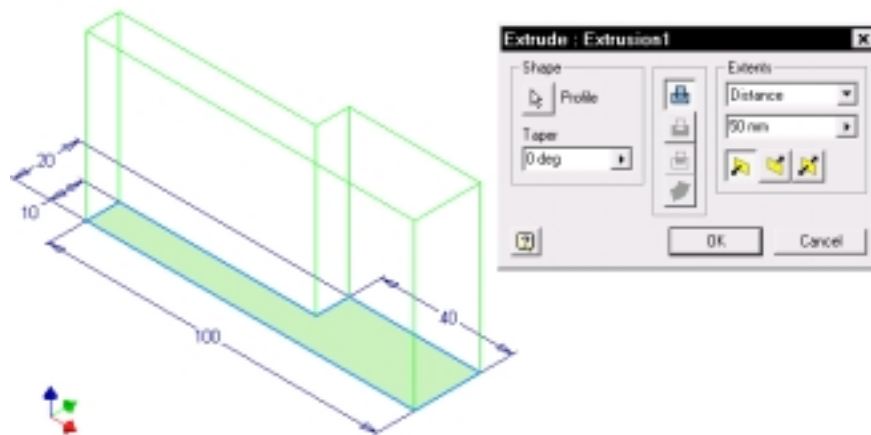

Figure 3-3
3. Set the display to an isometric view and extrude the sketch a distance of 100 mm. (See Figure 3-3.)